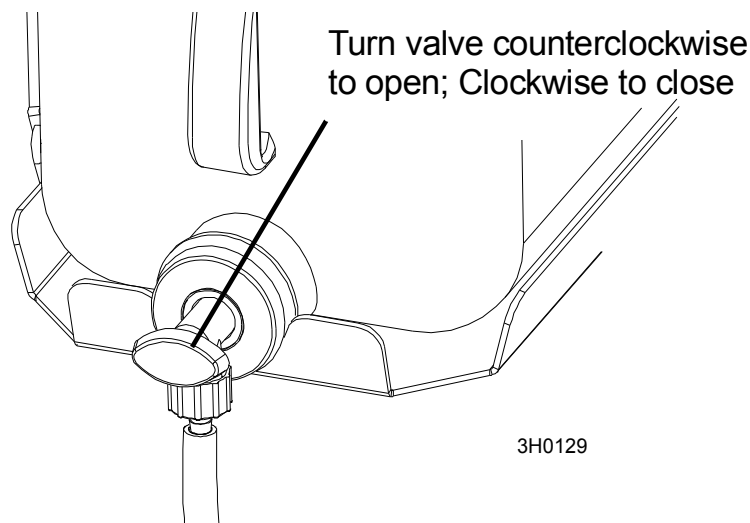

FIG. 3-19
**See Figure 3-19.** Open the valve on the water bottle to start water flow. A stream of water flow to the blade only when the main engine is turned on.